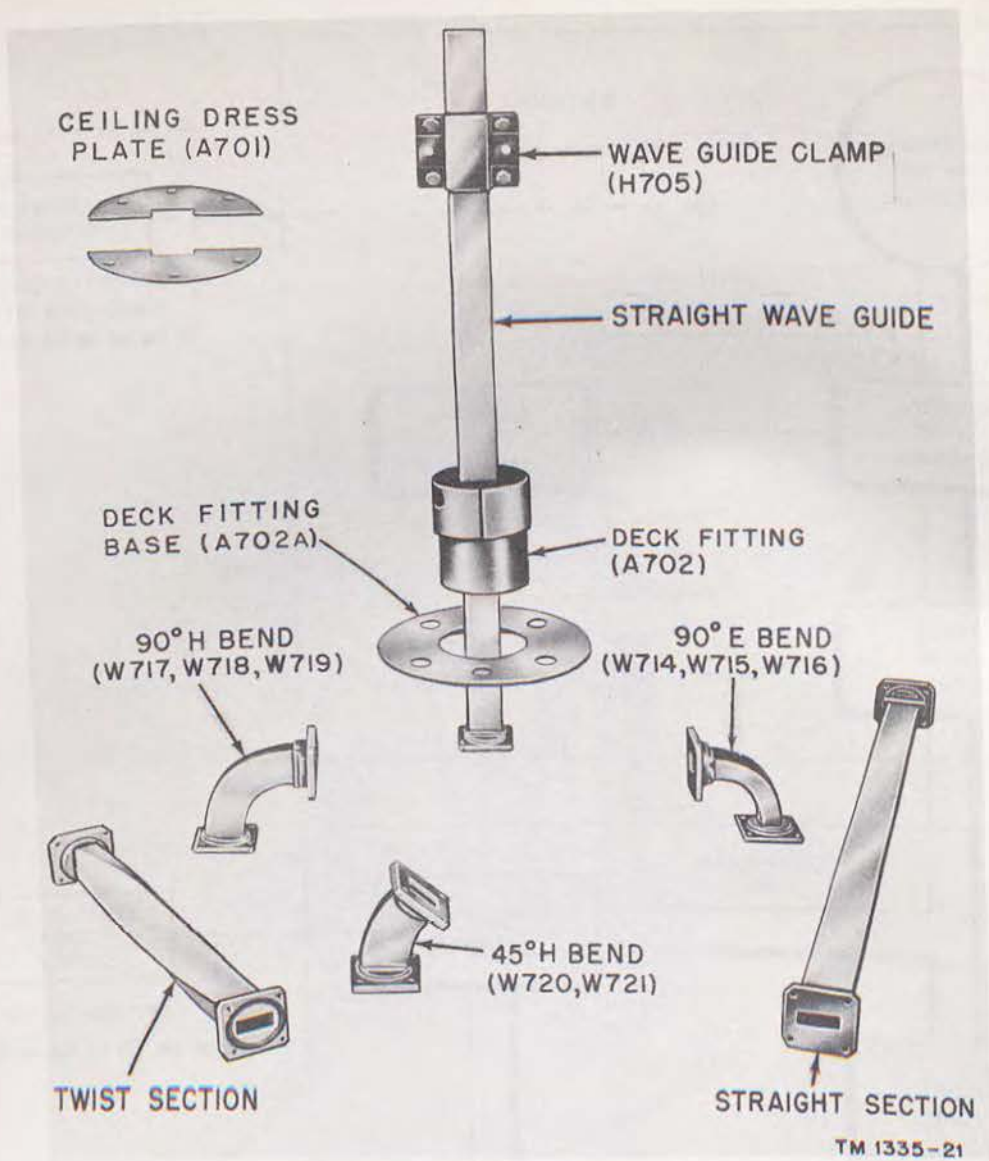

Figure 22. Wave guide sections.
a. *Wave Guides.* The wave guides (fig. 22) connect the duplexer with the antenna.